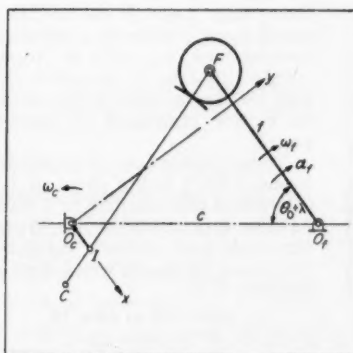

Fig. 2—Disc cam and oscillating roller follower
**Example:** Find instantaneous radius of curvature for disc cam with oscillating roller follower, Fig. 2, where  $\omega_c = 150$  rad per sec,  $r_b = 1.5$  in.,  $c = 4$  in.,  $f = 3$  in.,  $r_f = 0.5$  in.,  $\lambda = 25$  deg,  $\omega_f = 25$  rad per sec,  $\alpha_f = 6000$  rad per sec2.